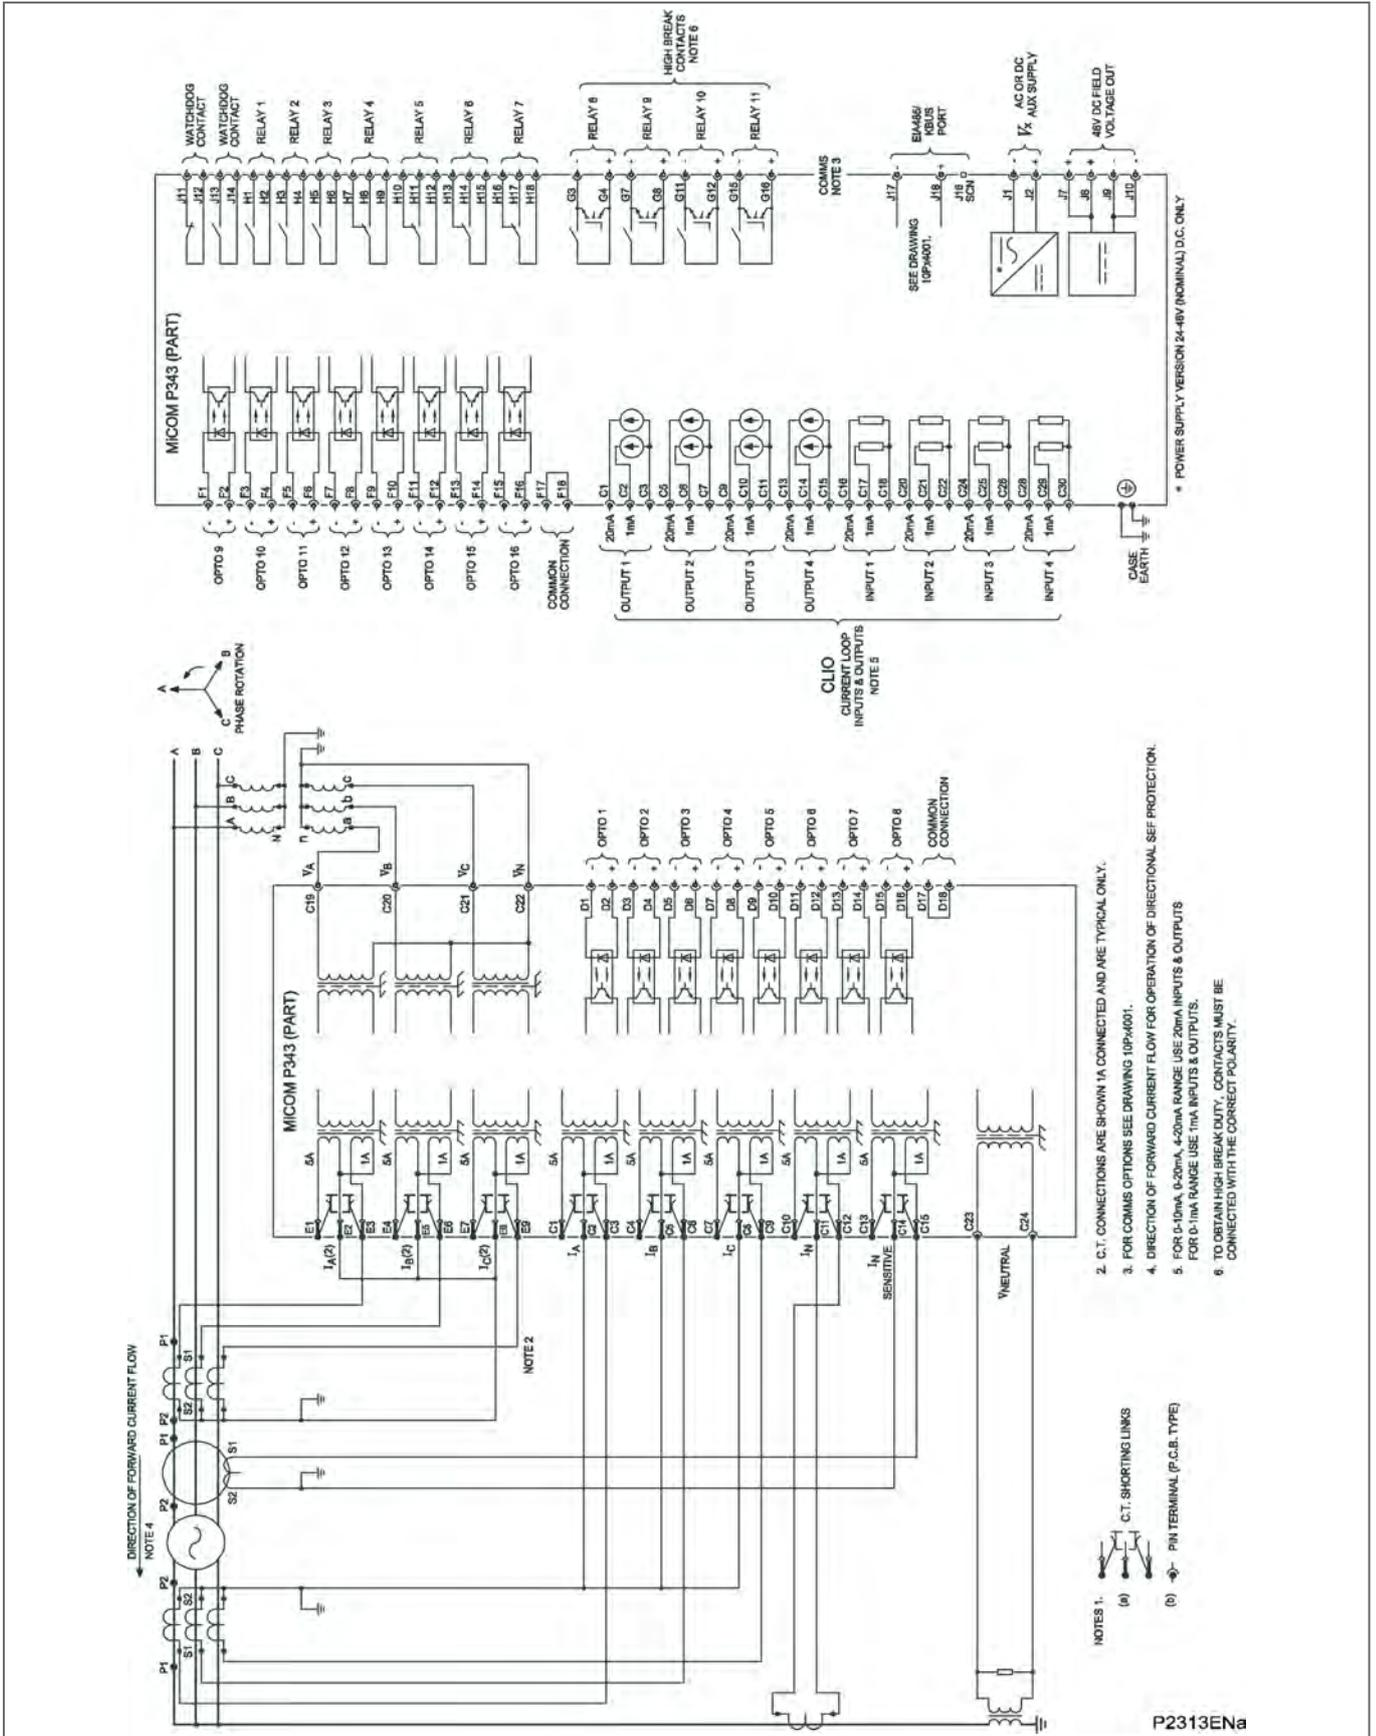

Figure 64 - P343 (60TE) with biased differential (16 I/P & 11 O/P (4HB) & CLIO)
- Figure 64 - P343 (60TE) with biased differential (16 I/P & 11 O/P (4HB) & CLIO)